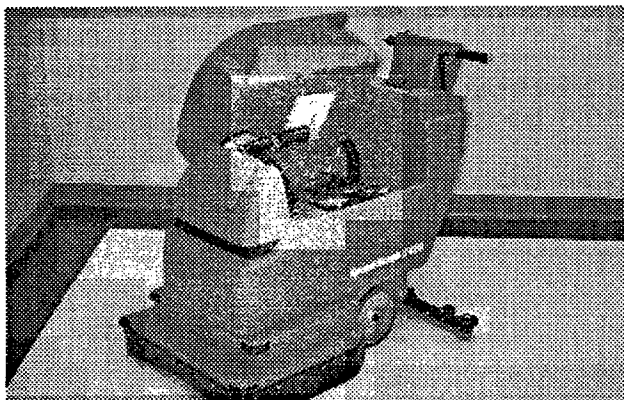

FIG. 20
3. Hinge open recovery tank sideways to access batteries. (Figure 20)